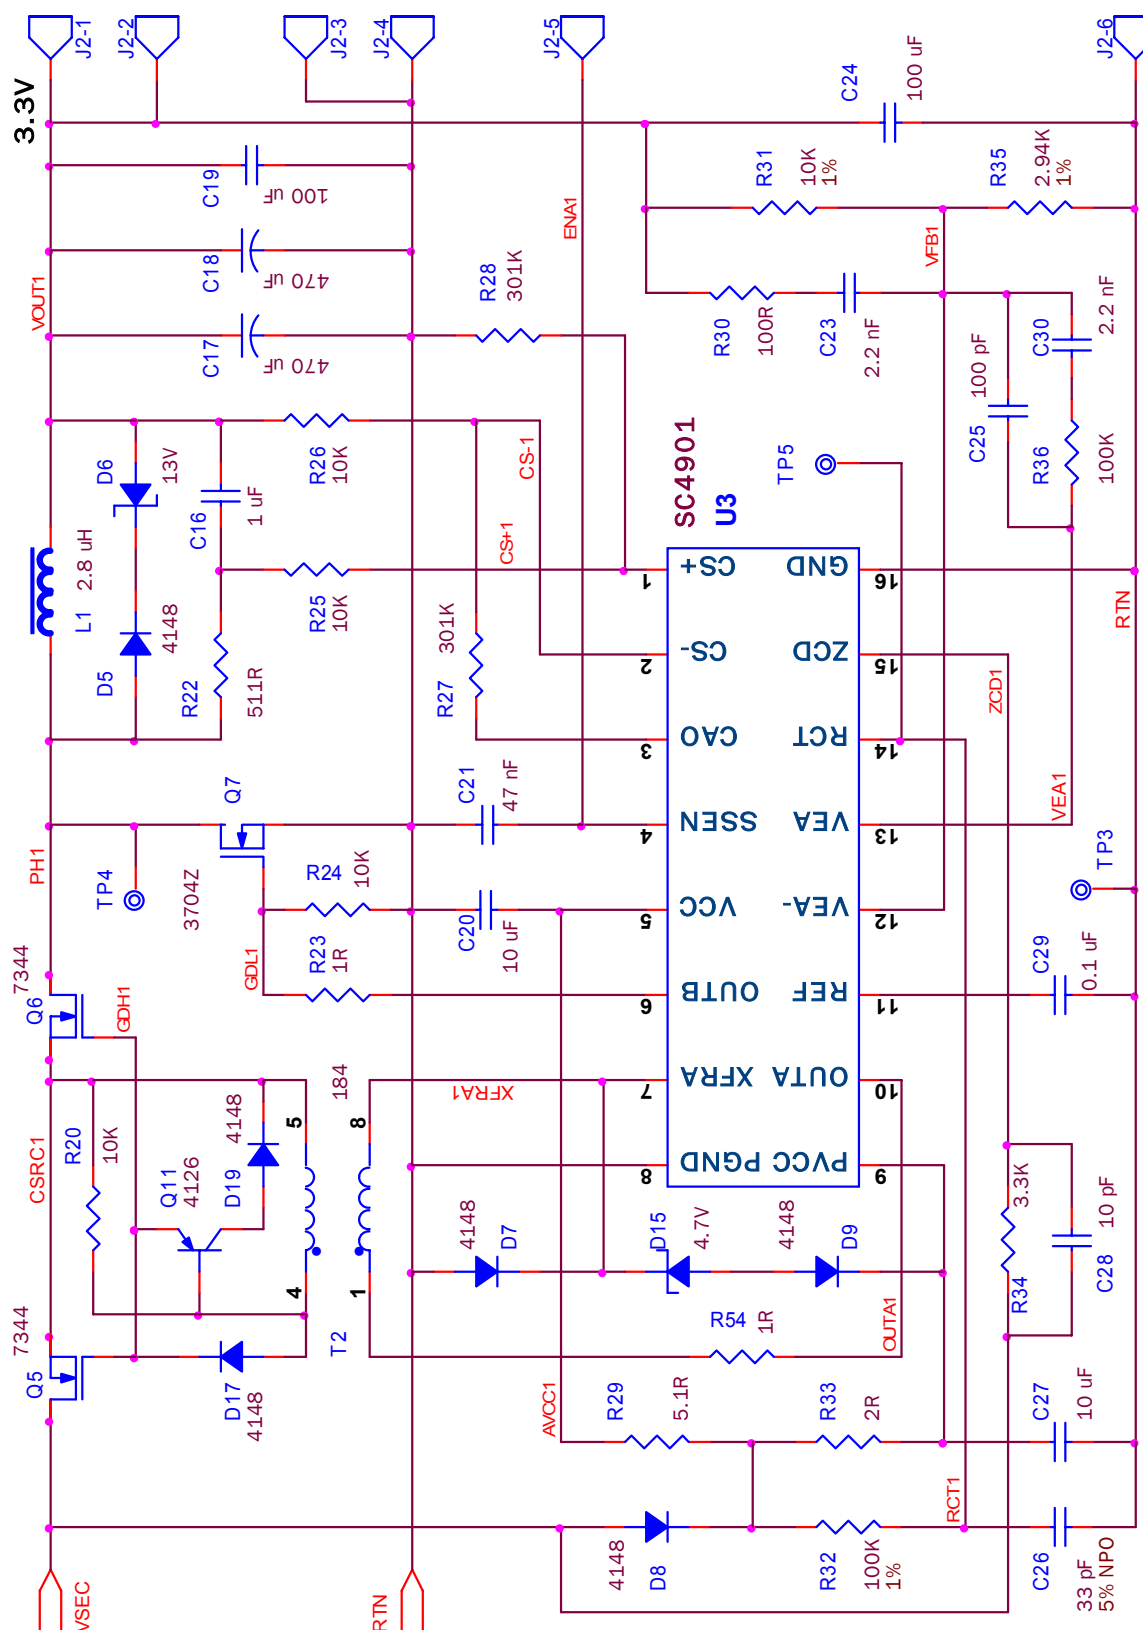

Fig 4) Complete secondary side schematic for a 3.3V/10A output.
The complete schematic of a secondary channel delivering 3.3V/10A is shown in Fig 4). Typical waveforms are shown in Figs 5) to Fig 8) These waveforms were taken on a dual output convertor with 48V input and a transformer turns ratio of 6:1. Both outputs were generated off a single secondary winding. The primary topology was a free running, active reset, forward convertor operating at 225 kHz. Volt second control was implemented using input feedforward with a maximum duty ratio of 65% at 40V input. The two outputs were rated at 3.3V/13A and 2.5V/13A for a total of 75W power. Of special interest are the primary side waveforms shown in Fig 8). The zero current turn on can be clearly seen. During turn off, the current decreases as 2.5V forward FETs turn off first, followed by 3.3V output. The last small step at final turn off represents the magnetising current in transformer primary.
g) The no load condition at the output needs special consideration in this topology. Under light load, the inductor current is negative as in any synchronous rectifier. When the synchronous MOSFET QR is turned off, the current is interrupted and tends to charge the drain source capacitor of QR. The back to back connected forward FETs prevent this current being returned to the source. The resulting overshoot on QR can be clamped by connecting a zener and diode combination across the inductor as shown in Fig 4). The zener clamp conducts *only* during the dead time and also provides a small benefit of reducing the voltage across the forward FETs during turn on. The detailed application schematic in Fig 4) shows diode D1 and zener D2 connected across the output inductor L1 to reduce the no load spike.